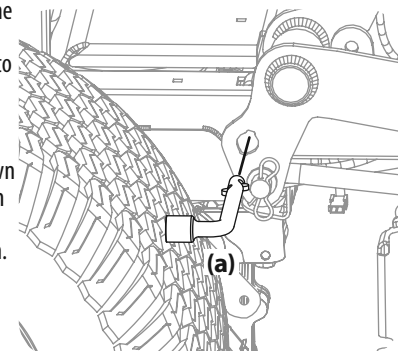

**Figure 39**
- d. While still holding the PTO belt (a) downward, continue turning the PTO pulley (b) until the PTO belt (a) is rolled off the PTO pulley (b). Refer to Figure 39.
8. Pull the right side of the PTO belt rearward and place the narrow V-side of the PTO belt into the PTO pulley. See Figure 39.
9. While holding the PTO belt and PTO pulley together, rotate the PTO pulley to the left (See Figure 39). Continue holding and rotating the PTO pulley and PTO belt until the PTO belt is fully rolled into the PTO pulley.